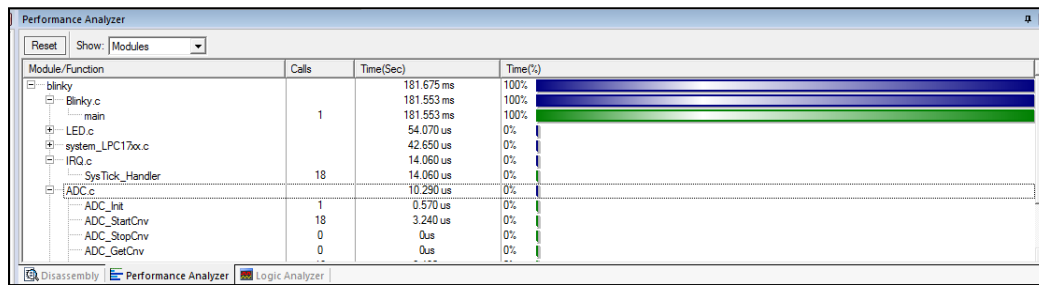

Fig. 14: Performance Analyzer Window
4. Watch the program execution and how the functions are called. You will see something like that of Figure 14. The analyzer can gather various statistics dynamically from the program, which may be useful for both debugging and performance assessment. Stop the program when you have finished analyzing with the PA tool.